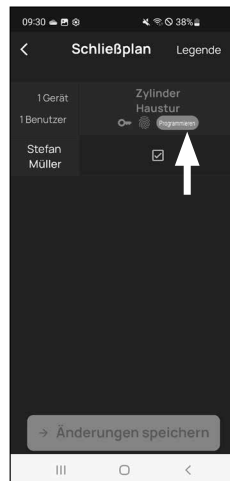

Fig. 4
- 5 If any changes have been made to the locking plan, the display of the respective cylinder appears red and the "Program" button is displayed. This indicates that the settings have not yet been transferred to the cylinder. To do this, tap the red "Program" button for the respective cylinder (Fig. 4).